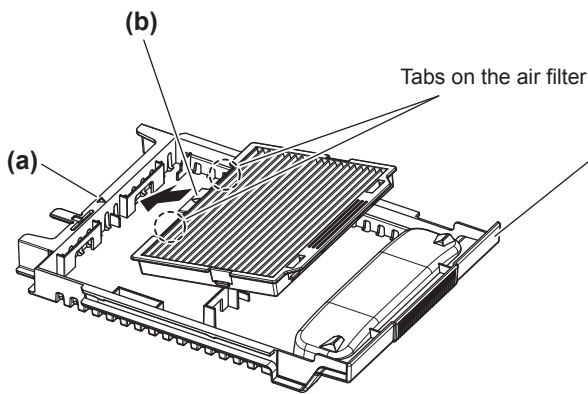

Fig. 1
- Attach the air filter by aligning the marking (\triangle) on (a) and (b) and inserting the tabs on the air filter to the air filter case. (Fig. 1)